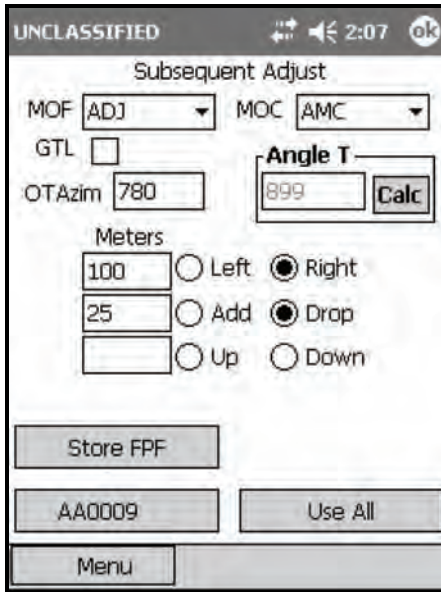

Figure 18-58. Final Protective Fire: first adjustment.
(22) Select the <Target> button.
(23) The <Target> screen displays.
(24) Select Subs Adust.
(25) The Subsequent Adjust screen displays (Figure 18-58).